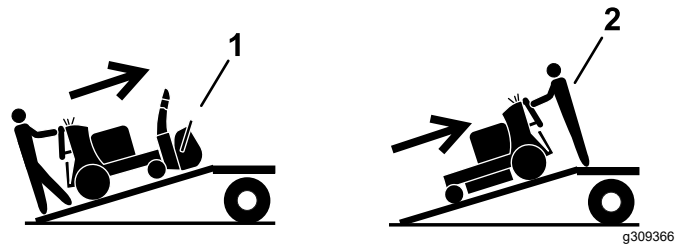

Figure 31
- If the attachment is not installed, load the machine with the rear up the ramp (Figure 31).
2. Drive the machine forward down the ramp (Figure 31).